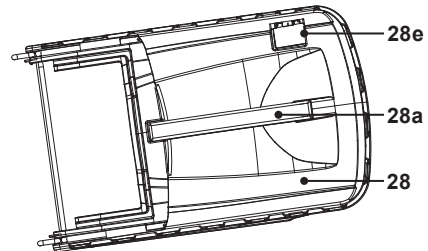

Fig. 18
2. When the hatch (28e) is closed, the grass catcher (28) is full and must be emptied (Fig. 18).